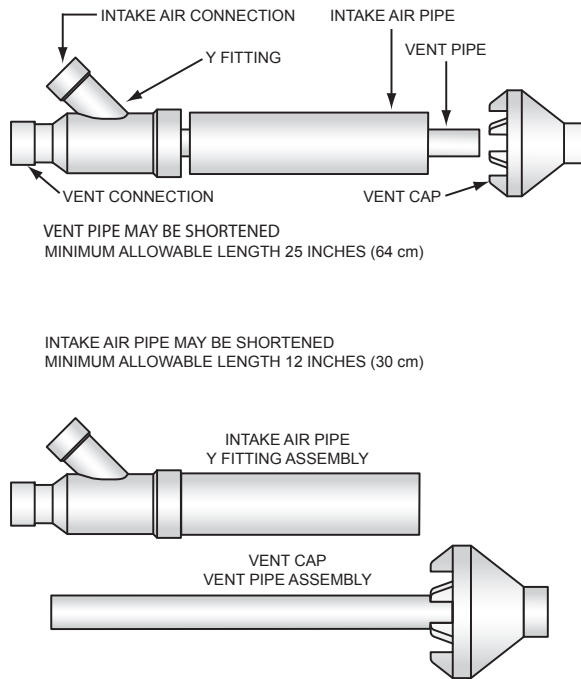
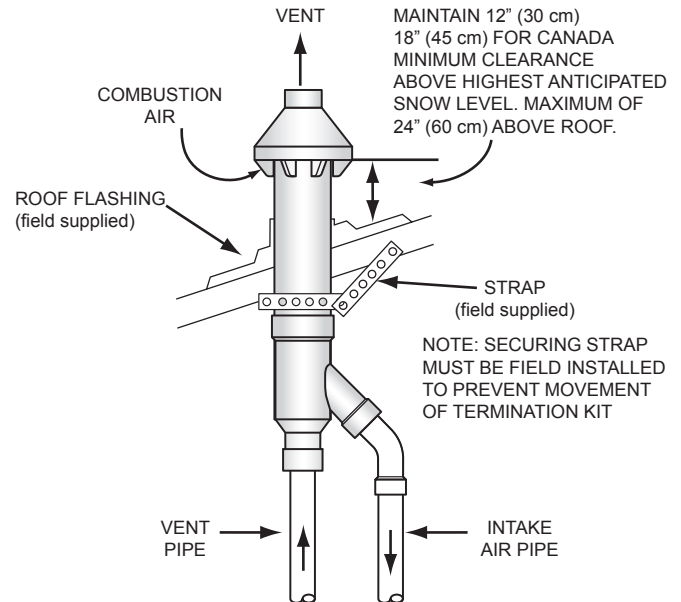
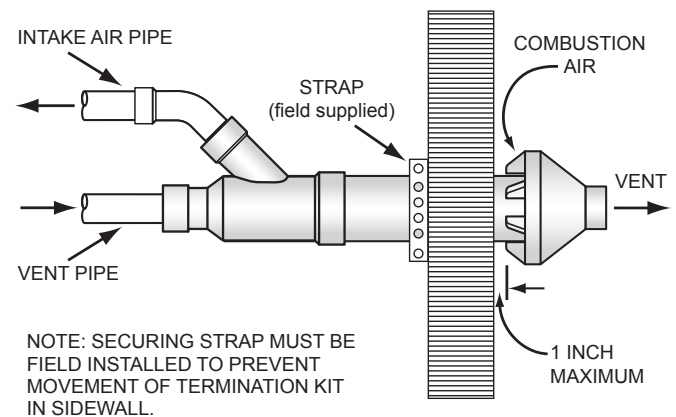

Figure 31. Concentric Termination Kit
Figure 32. Concentric Termination - Vertical Installation
Figure 33. Concentric Termination - Side-Wall Installation
- When installing a concentric termination vertically through the roof, ensure that all exterior vertical clearance requirements for the concentric termination, shown in **Figure 32** (page 29), are being maintained. These clearances and those cited by local and national codes must be maintained.
- See **Figure 31** (page 29) for the minimum lengths allowed for the concentric termination.
Assemble and install the four-inch concentric termination. Refer to **Figure 31**, **Figure 32**, and **Figure 33** for these instructions: